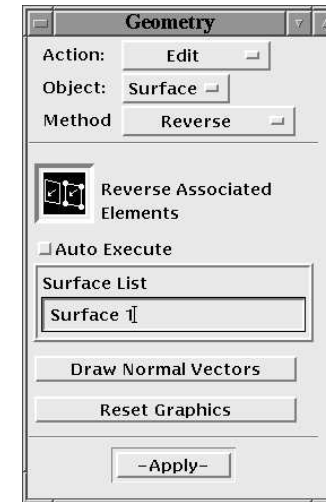

Figure 16: Check Surface Normal
- To check this change 'Action' from 'Create' to 'Edit'. Change the 'Object' to 'Surface' and the 'Method' to 'Reverse' (see **Figure 16**).